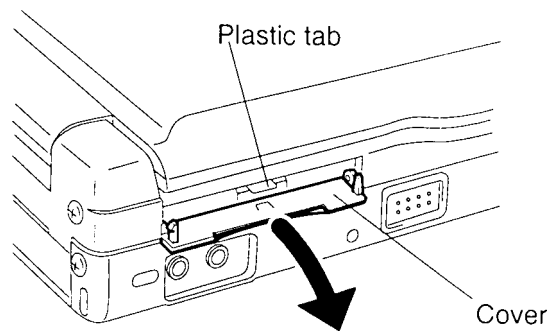

Figure 4-2 Opening the cover
To remove an optional memory card from the T4900CT, follow the steps below and refer to figures 4-2 and 4-3.
3. Open the **cover** to the expansion memory slot located on the left side of the computer (figure 4-2).
4. Grasp the **plastic tab** and pull it so that the card comes partially out of the computer (figure 4-2).
To install an optional memory card in the T4900CT, follow the steps below and refer to figures 4-2 and 4-3.
2. Close the **expansion memory cover** (figure 4-2).